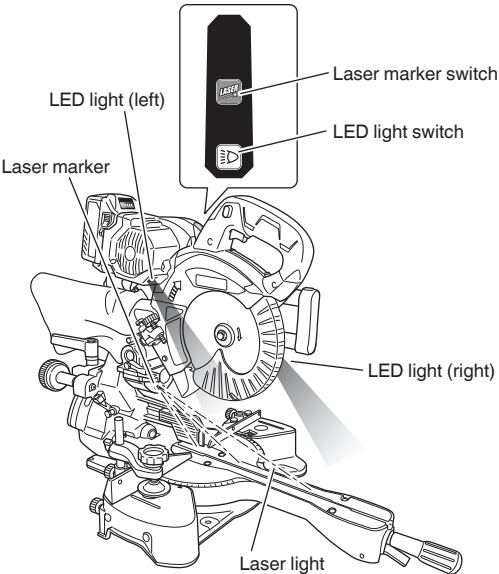

Fig. 19
- Press the laser marker switch on the switch panel to turn on the laser line. Press again to turn it off. (Fig. 19)
- Press the LED light switch to switch the lighting mode of the LED light. (Fig. 19, Table 3)